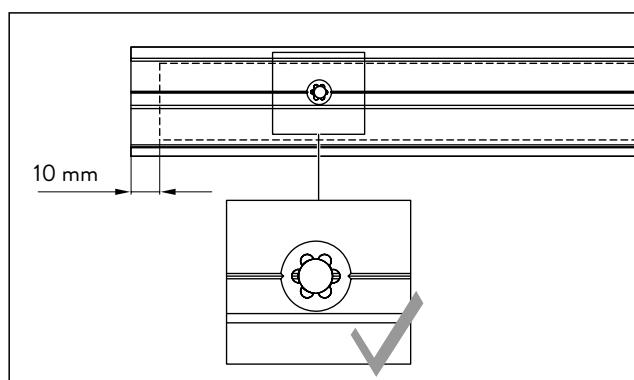

Fig. 26 Positioning the lining profile
- Insert the lining profile into the counter profile in such a way that the pre-drilled holes of the lining profile and the track are lined up with each other. The lining profile should be shifted in by a minimum of 10 mm on each side (Fig. 26).